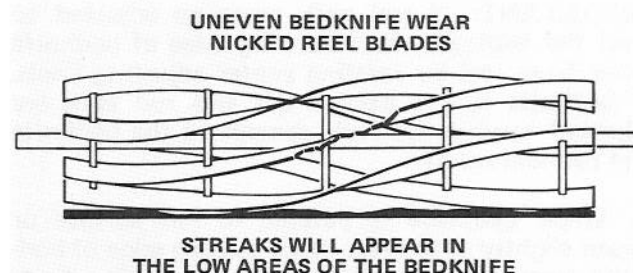

Figure 6
**NOTE:** Rifling is the uneven or wavy condition that develops on bedknife and reel when there is heavy contact between these two parts (Fig. 6). Streaks of uncut grass and an overall poor quality of cut are signs of rifling. Grinding the bedknife and reel is the only way to repair a rifled mower.